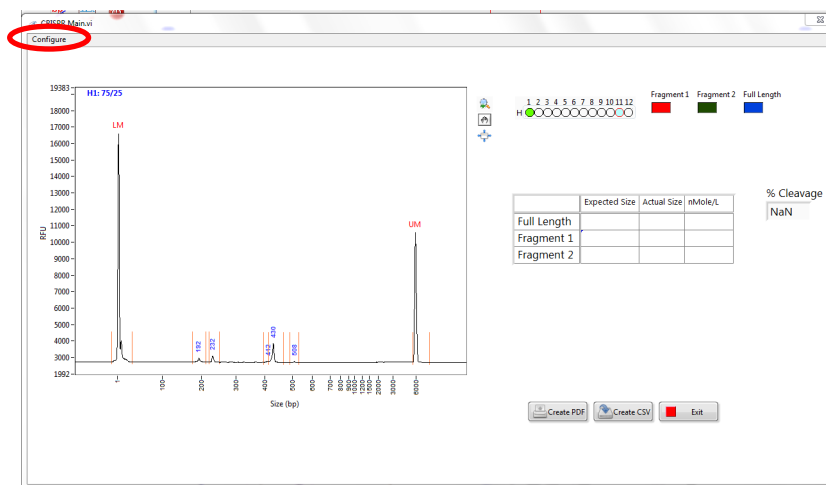

Figure A2. Select **Configure** to enter expected PCR fragment and cleaved DNA fragment sizes.
- 3 To configure fragment sizes for the plugin, or load previously configured and saved values, select **Configure** in the upper left hand corner of the display (Figure A2).